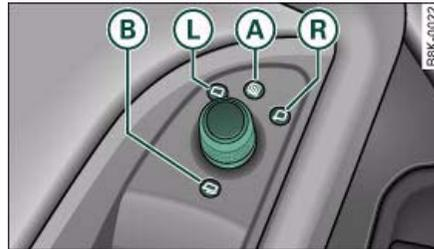

Fig. 72 Detail of the armrest: Adjuster knob
- Turn the adjuster knob to position **L** (left exterior mirror) or position **R** (right exterior mirror) ⇒ fig. 72.
When reverse gear is engaged, the mirror surface tilts slightly downwards, provided the mirror control is switched to the exterior mirror on the passenger's side (knob in position **R** ⇒ fig. 72). This provides a better view of the kerb when parking.